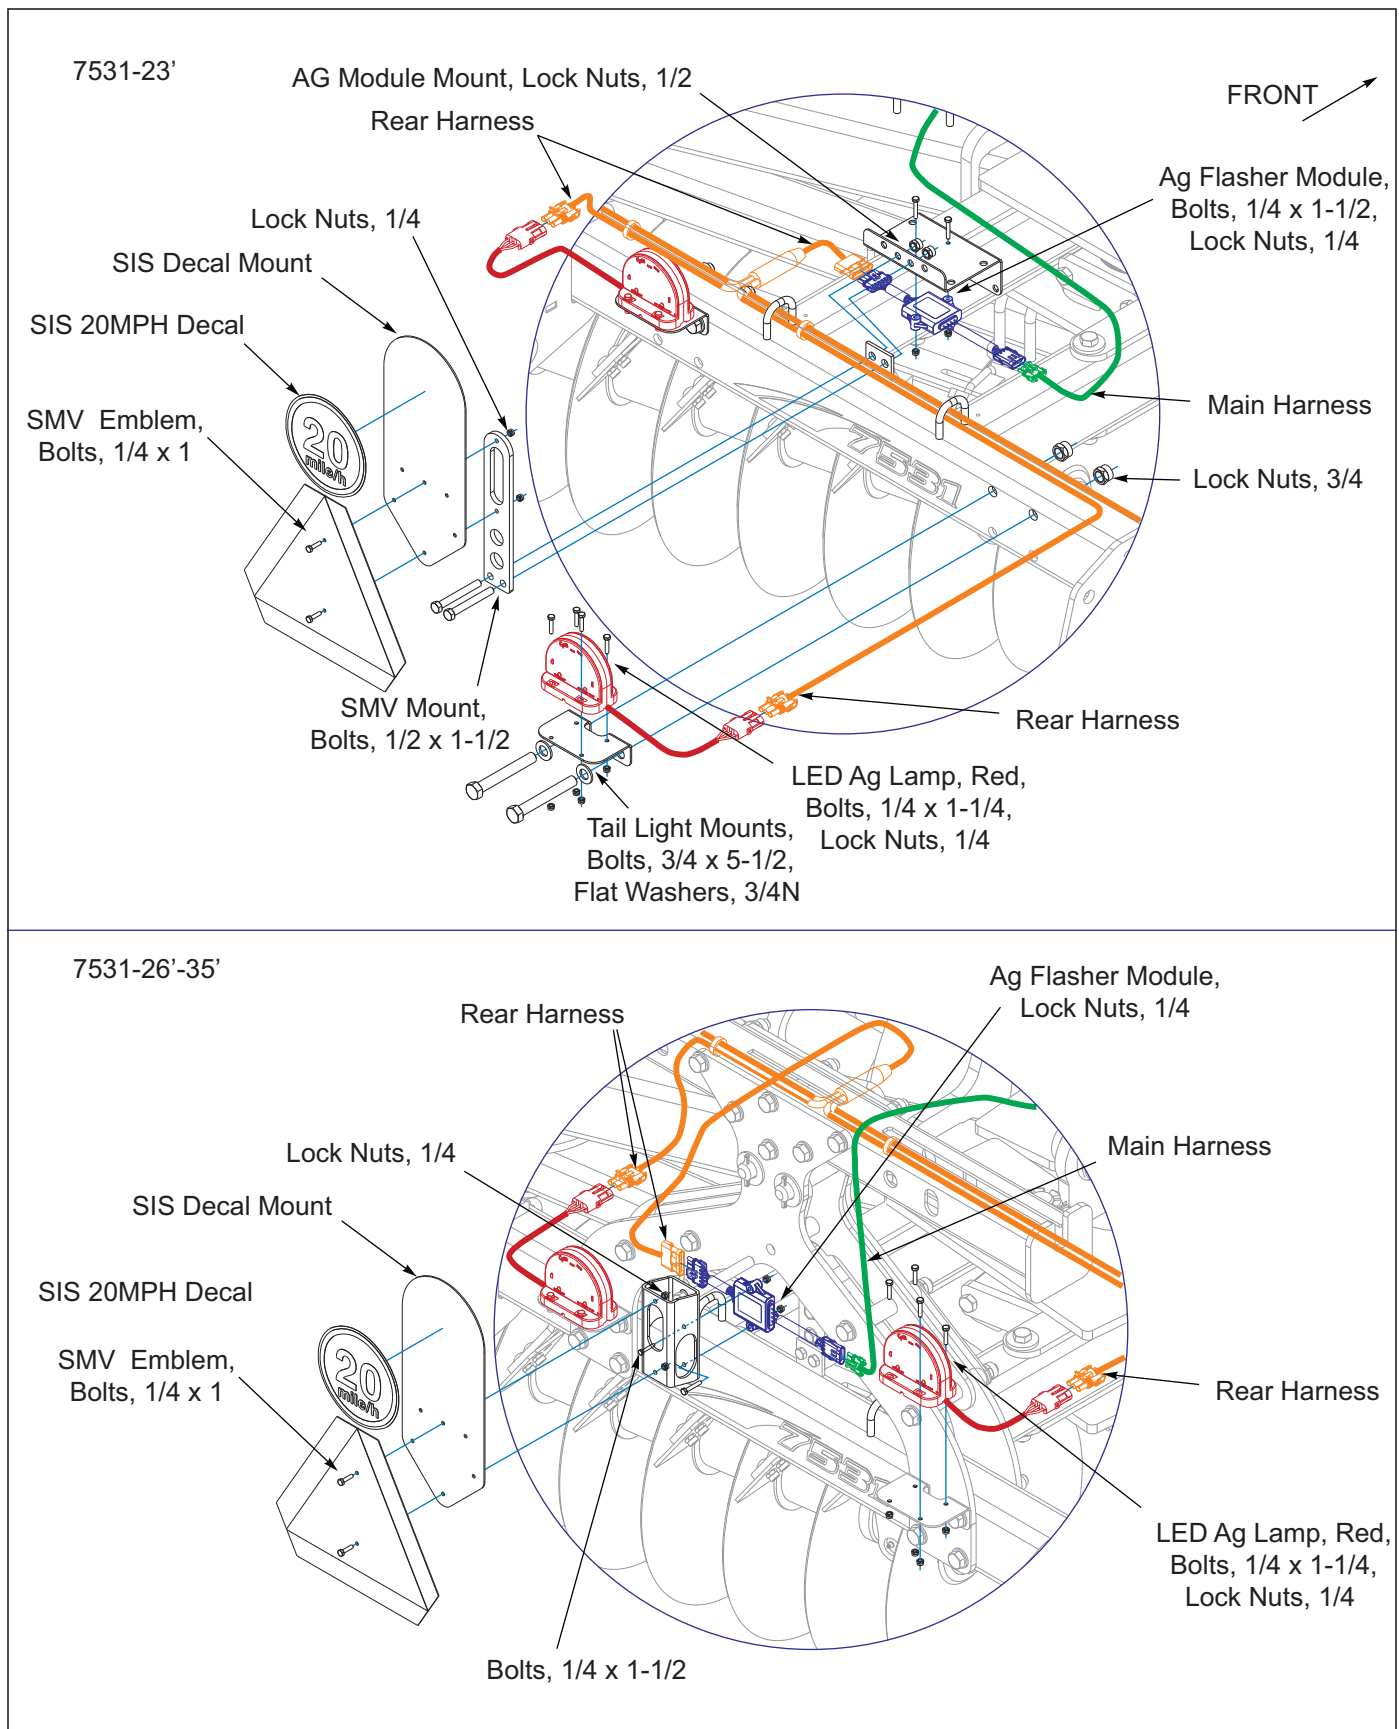

Figure 3-54: Electrical Assembly W/LED Lights (Page 2 of 5)
3. Model 7531-23' attach the ag module mount to front side of 2 hole plate and SMV mount to back side of 2 hole plate **See Figure 3-54**. Secure mounts with 1/2 x 1-1/2 bolts and 1/2 lock nuts.
4. Model 7531-23' attach the tail light mounts to rear tube of center frame **See Figure 3-54** using 3/4 x 5-1/2 bolts, 3/4N flat washers and 3/4 lock nuts.
Mounting location of ag flasher module, red led ag lamps and smv for Models 7531-23' and 7531-26'-35', See Figure 3-54.